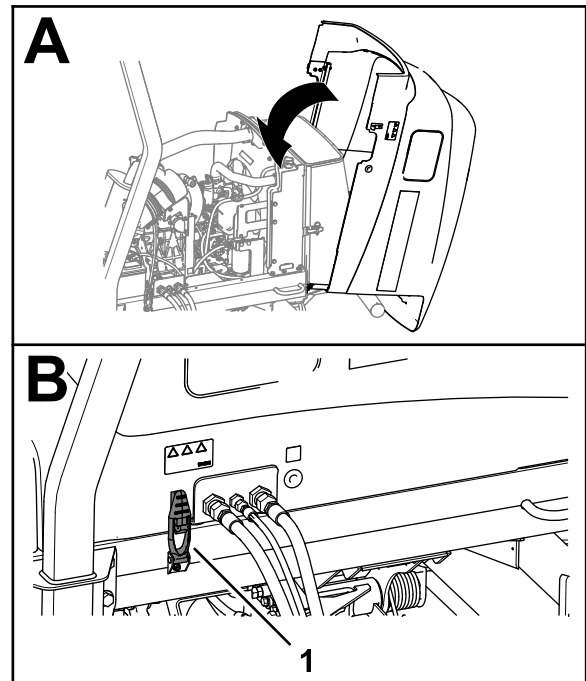

Figure 102
1. Carefully rotate the hood closed (Figure 102).